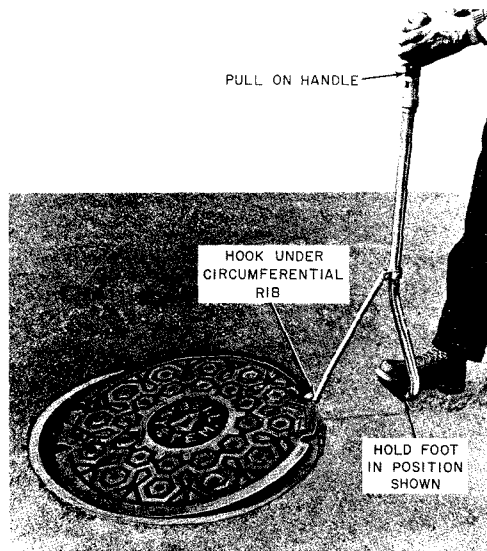

Fig. 30—Unseating Cover With PTS-49 Manhole Cover Lifter
(2) Turn the hook 90 degrees, set the foot of the tool on the ground about 12 inches from the cover, take a working position as shown in Fig. 30, and unseat the cover by pulling on the handle.